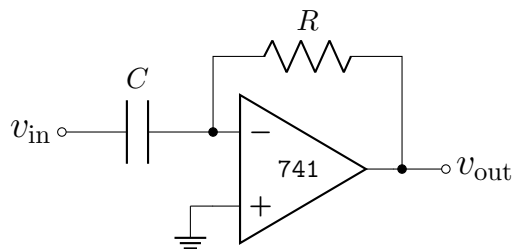

Figure 3: “Differentiator” amplifier
4. Construct the differentiating amplifier circuit shown in Fig. 3 with  $C = 100\text{ nF}$  and  $R = 2\text{ k}\Omega$ . Set the function generator to produce a triangle wave with  $f = 1\text{ kHz}$  and  $|v_{\text{in}}| = 2.0\text{ V}$  peak-to-peak.